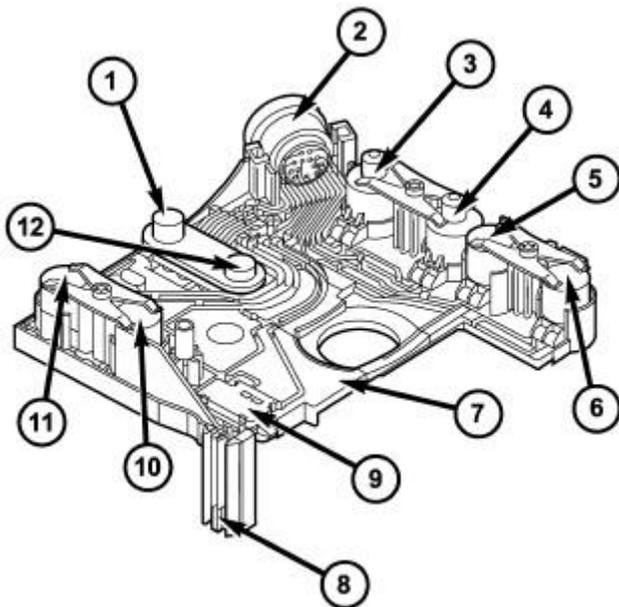

Fig. 230: Identifying Electrical Control Unit Components
Signals from the transmission control module (TCM) are converted into hydraulic functions in the electric valve control unit (7). Refer to **Fig. 230**. The RPM sensors (1, 12), starter interlock contact (9), and transmission oil temperature sensor (8) of the electric valve control unit (7) supply the TCM with input signals. The solenoid valves are controlled by the TCM and trigger the hydraulic functions.